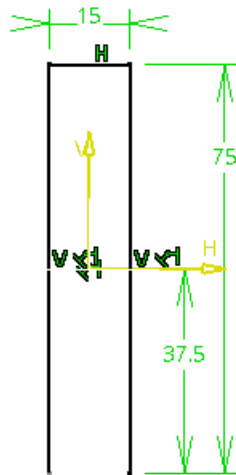

Figure 17-104 Sketch of the base surface
2. Invoke the sketcher environment using the zx plane as the sketching plane and create the sketch of the base surface, as shown in Figure 17-104.